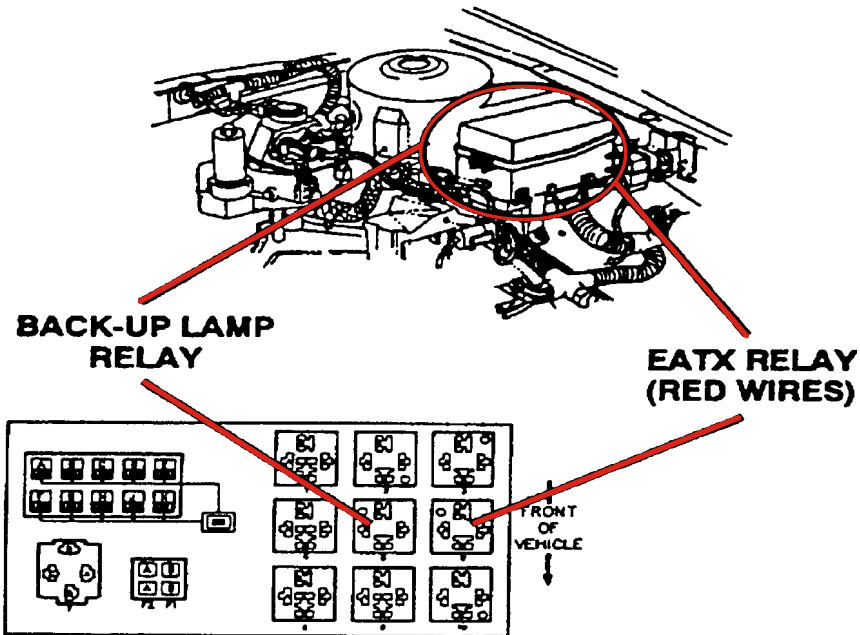

Figure 2
(1) Locate the EATX relay in the Power Distribution Center as shown in Figure 2.